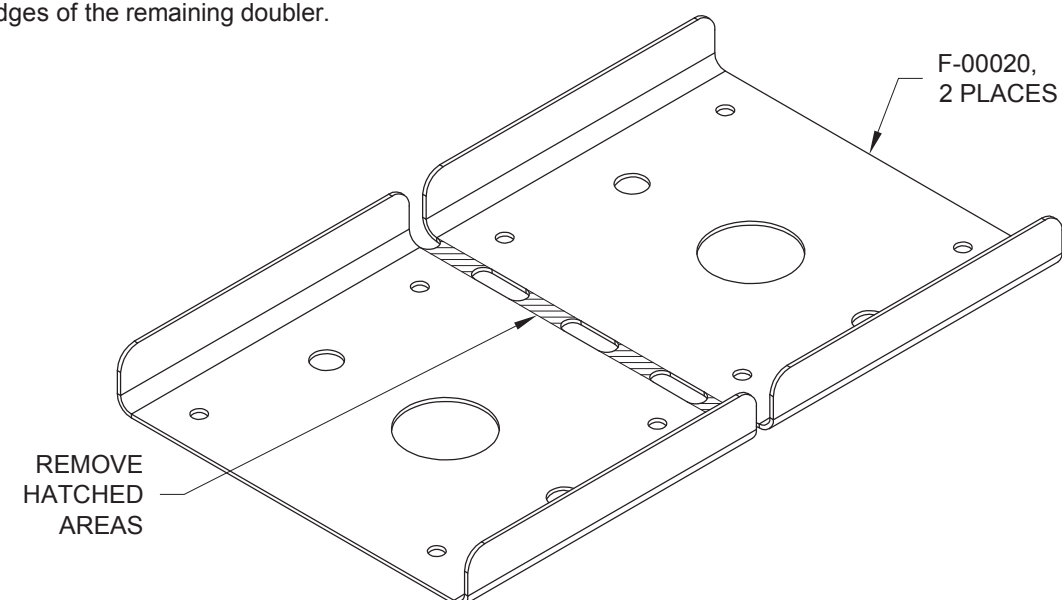

FIGURE 3: SEPARATING THE ANTENNA DOUBLERS
Step 4: Separate the F-00020 Antenna Doublers by removing the hatched area shown in Figure 3. Discard one part (or make it into a Christmas tree ornament).